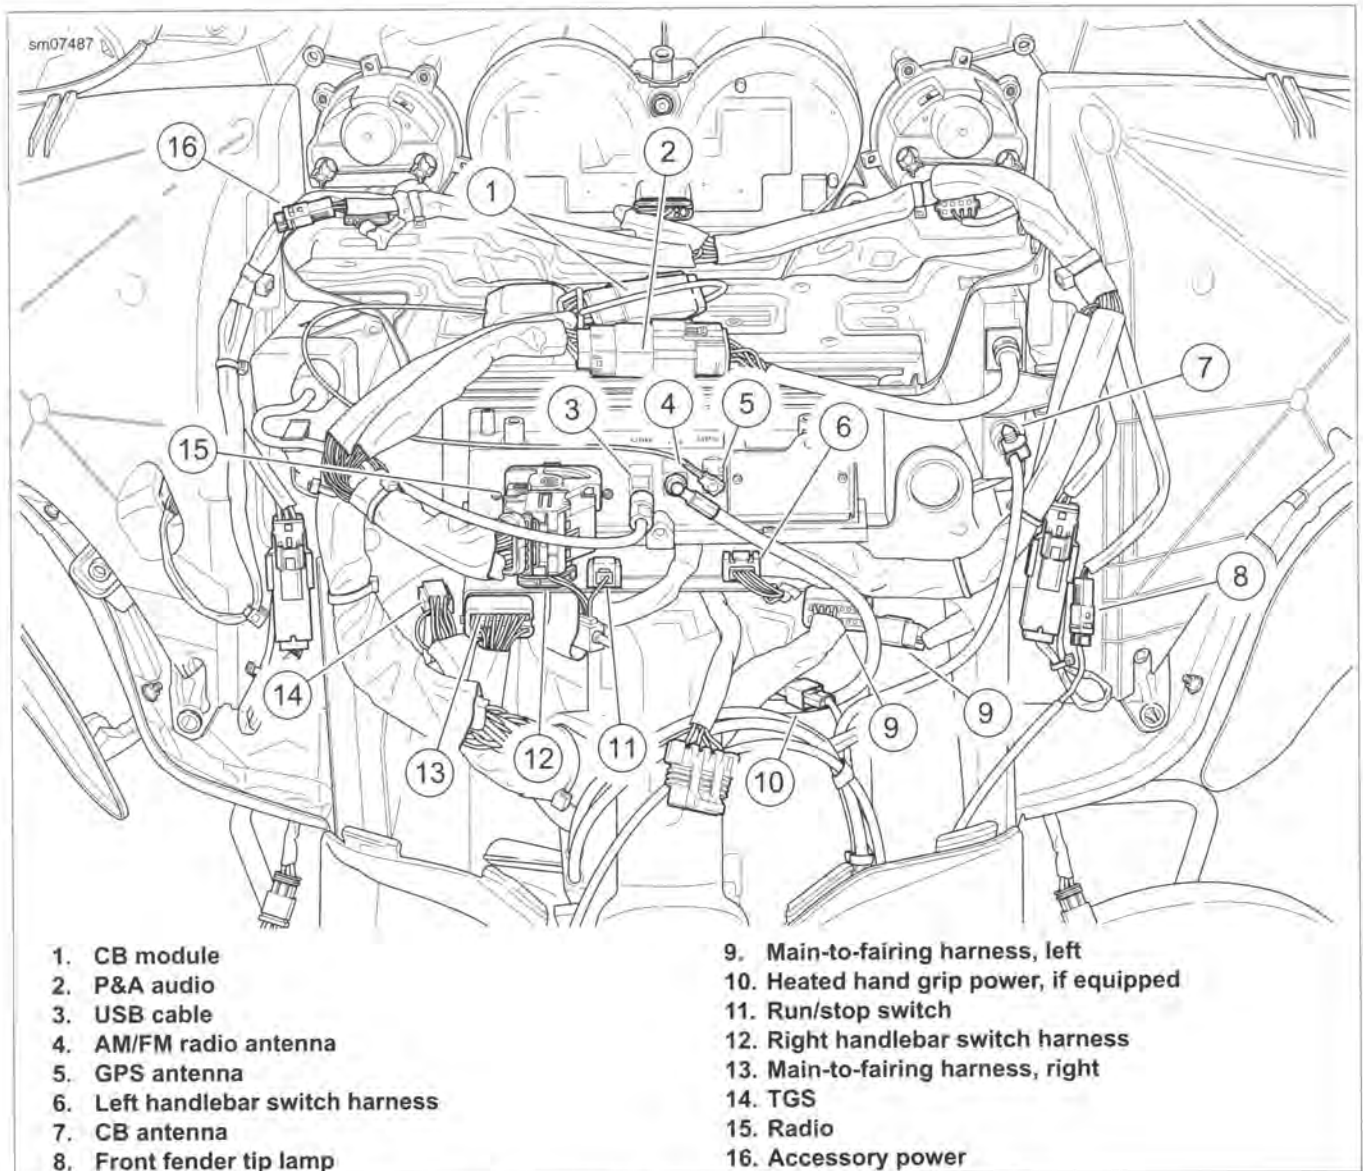

Figure 2-141. Inner Fairing Harness Connectors
2. See Figure 2-141. Separate connectors (1-15).
- See Figure 2-141. Mate connectors (1-15).